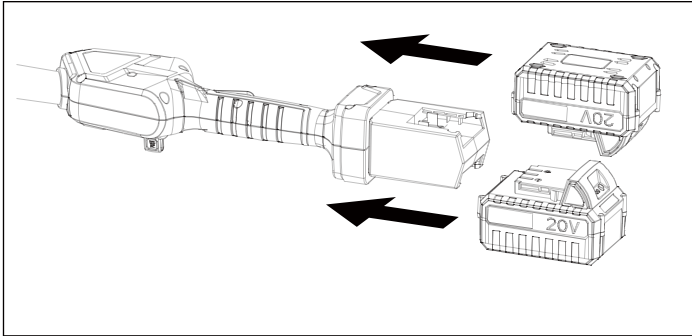

Fig. 8
1. Slide the battery into the battery compartment until it clicks to lock it into position (Fig.8).